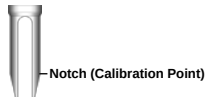

Figure 16: Calibration Point
- Dip the Elixir into test tank upto the notch (calibration point) as shown in Figure 16.